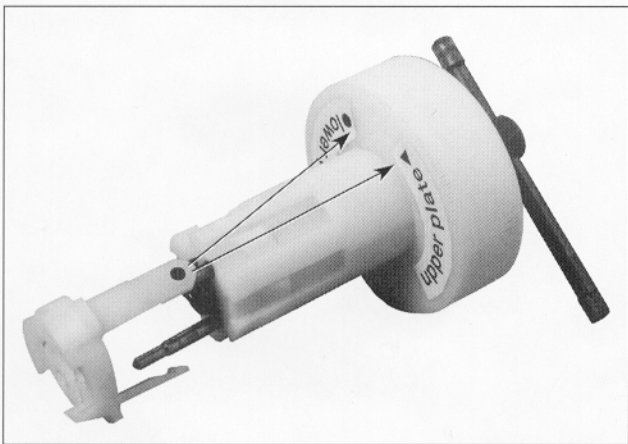

Fig. M3
- Align the upper cylinder removal tool's reference element with the ▽ symbol (Fig. M3) to remove the upper cylinder's upper clamping plate (short pins).
- Pull the Upper Cylinder Removal Tool's reference element and align it with the O for the removal of the upper cylinder's lower clamping plate (long pins; see fig. M3). Position the upper tool's arm in the CLOSED position, then place it on the lower clamping plate through the three holes of the upper cylinder. Ensure that all three pins snap into the lower clamping plate. Loosen the clamping plate by turning the tool's arm 90° in the OPEN position. Remove the upper cylinder.